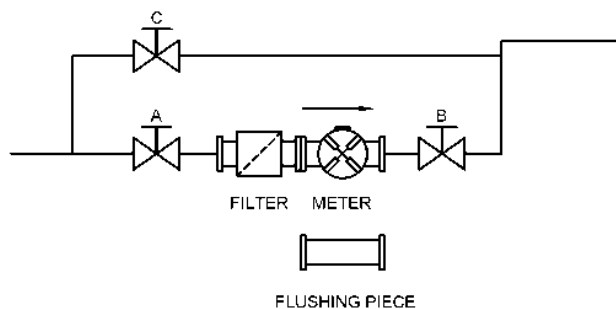

Figure 13 – Flowmeter setup with bypass piping arrangement and flushing piece
1. Close valves A, B and C, as shown in Figure 13.